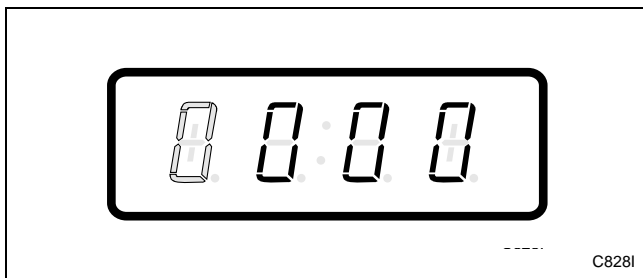

Figure 63
6. Press the START (enter) keypad to enter the fifth digit and display remaining four digits. The active digit will flash one second on and one second off. Refer to *Figure 63*.